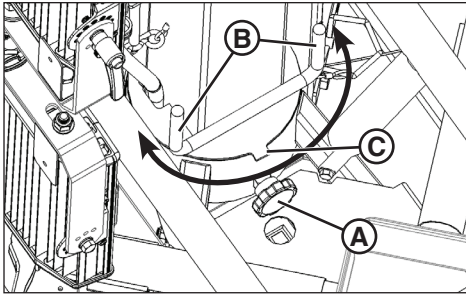

Figure 10
2. Loosen the light tower mast lock knob (**A**, Figure 10).
3. Use the handles (**B**, Figure 10) to rotate the light tower mast in the desired direction.
5. When lighting operations are complete, rotate the light tower mast to the transport position: Align the light tower mast tab (**C**, Figure 10) with the front center of the light tower base. Tighten the light tower mast lock knob securely. See also **Transport Position**.